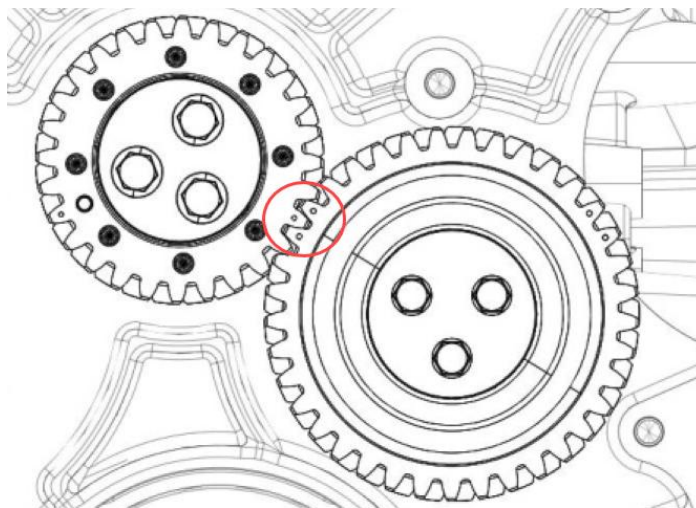
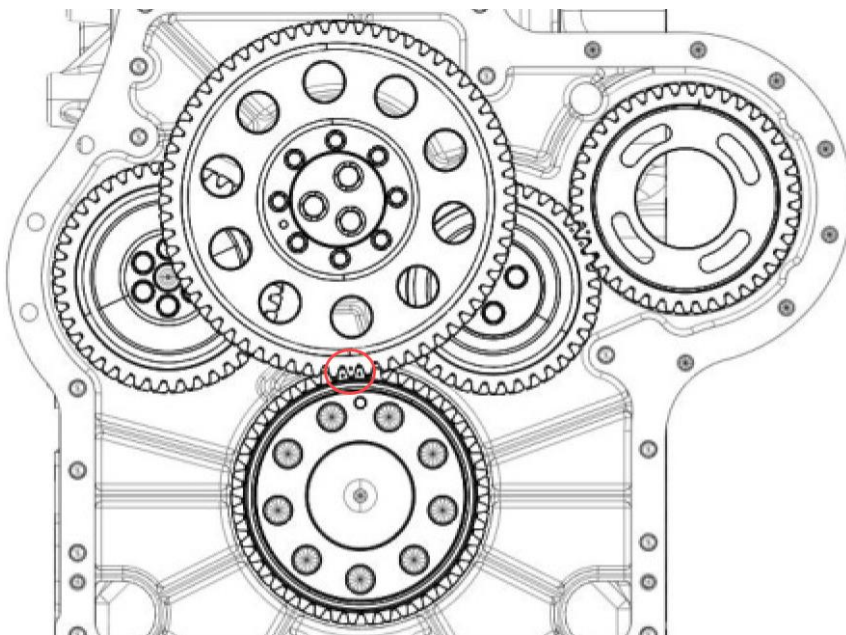

Figure 124.
Figure 129.
4. Oil the idler gear (Figure 124) and install onto the engine block, ensure to install the two-timing marks between the single (already installed) smaller timing mark (Figure 124).
13. Insert the big idler gear onto the dowel pin on the previously installed smaller idler gear (Figure 129). Ensure to place the timing mark of the big idler gear between the two-timing marks of the crankshaft timing gear (Figure 124).